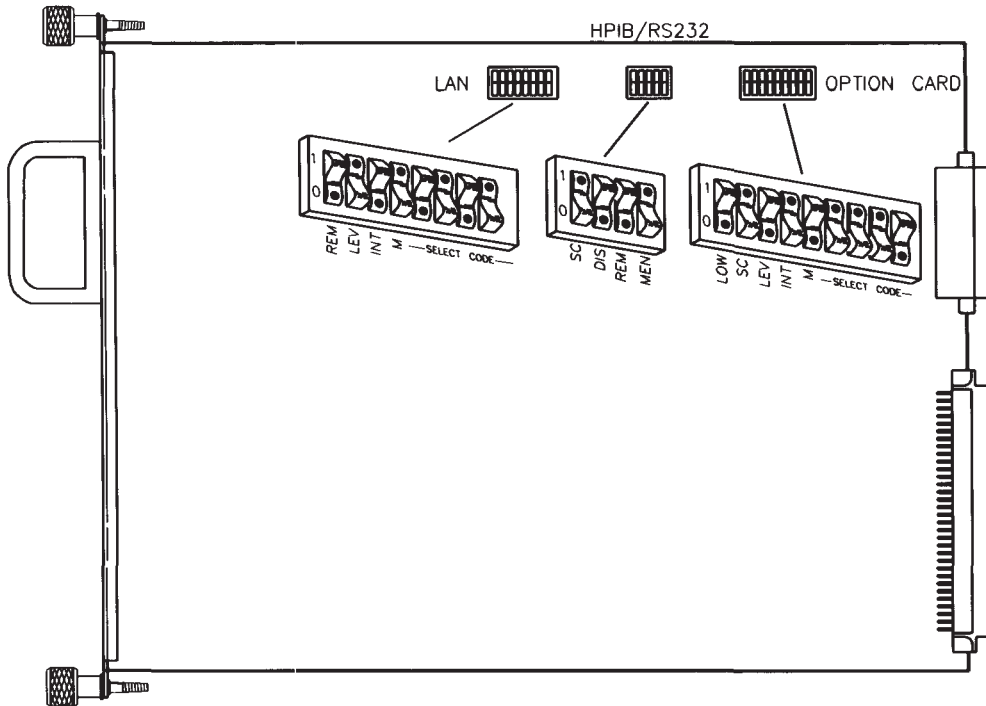

Figure 5-33.
- a. Find the group of four switches labeled “HPIB/RS232”. The switch labeled “SC” in this group is the System Controller switch (see Figure 5-33).
- b. If connecting two computers together via HP-IB, only one of them may be set to system controller. To change this interface to non-system controller, move the System Controller switch to the *0* position (the opposite of that shown in Figure 5-33).
- a. Find the group of four switches labeled “HPIB/RS232”. The switch labeled “DIS” in this group is the RS-232C Disable switch (see Figure 5-33).
- b. To disable the RS-232C Serial interface, move the *DIS* switch to the *1* position (the opposite of that shown in Figure 5-33).
If you later want to enable the RS-232C Serial interface, move the switch back to the *0* position as shown in Figure 5-33.
- a. Find the group of four switches labeled “HPIB/RS232”. The switch labeled “REM” in this group is the Remote Terminal Enable switch (see Figure 5-33).
- If you are connecting a terminal to this interface and want this terminal to be the system console, set this switch to *1*, which is the *opposite* of that shown in Figure 5-33.
- If you are connecting a terminal to this interface but *do not* want this terminal to be the system console, or if you are connecting any other device, set this switch to *0* as shown in Figure 5-33.
- a. Find the group of four switches labeled “HPIB/RS232”. The switch labeled “MEN” in this group is the Modem Lines Enable switch (see Figure 5-33).
- If you intend to connect an HP 2601A printer, an HP 2686A *LaserJet* printer, an HP 92205A/C Hayes *SmartModem*, or a uucp, set this switch to *1* as shown in Figure 5-33.
- If you intend to connect a terminal or the HP 39800/01A bar code reader, set this switch to *0*, which is the *opposite* of that shown in Figure 5-33.
- a. Find the group of eight switches labeled “LAN”. The five switches labeled “M” (for Most-significant bit) and “SELECT CODE” in this group are the LAN Select Code switches (see Figure 5-33).
- a. Find the group of eight switches labeled “LAN”. The two switches labeled “INT” and “LEV” in this group are the LAN Interrupt Level switches (see Figure 5-33).
- a. Find the group of nine switches labeled “OPTION CARD”. The five switches labeled “M” (for Most-significant bit) and “SELECT CODE” in this group are the Select Code switches (see Figure 5-33).
- a. Find the group of nine switches labeled “OPTION CARD”. The switch labeled “SC” in this group is the System Controller switch (see Figure 5-33).
- b. If connecting two computers, only one of them may be set to system controller. To change this interface to non-system controller, change the System Controller switch to *0* (the opposite of that shown in Figure 5-33).
SKIP? The Low/High Speed switch is preset to *0*, “high speed,” as shown in Figure 5-33. This setting is appropriate for most applications. If you want to change this setting, continue with step 12; otherwise skip to step 13.
- a. Find the set of nine switches labeled “OPTION CARD”. The switch labeled “LOW” in this group is the Low/High Speed switch (see Figure 5-33).
- To set this switch to low speed, set the “LOW” switch to *1*, which is opposite of that shown in Figure 5-33.
- To set this switch to high speed, set the “LOW” switch to *0* as shown in Figure 5-33.